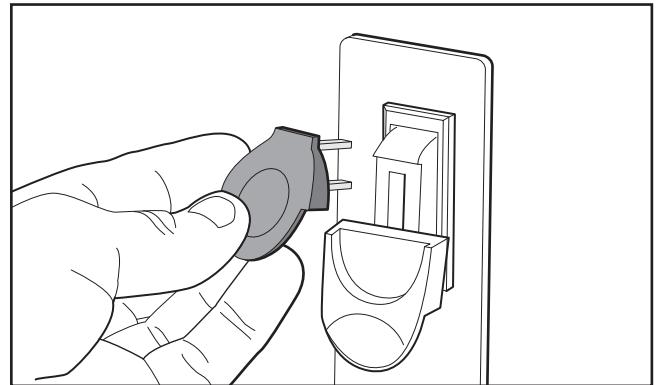

Figure 13. Removing key from paddle switch to disable switch and prevent unauthorized use.
4. Remove switch disabling key, as shown in **Figure 13**.